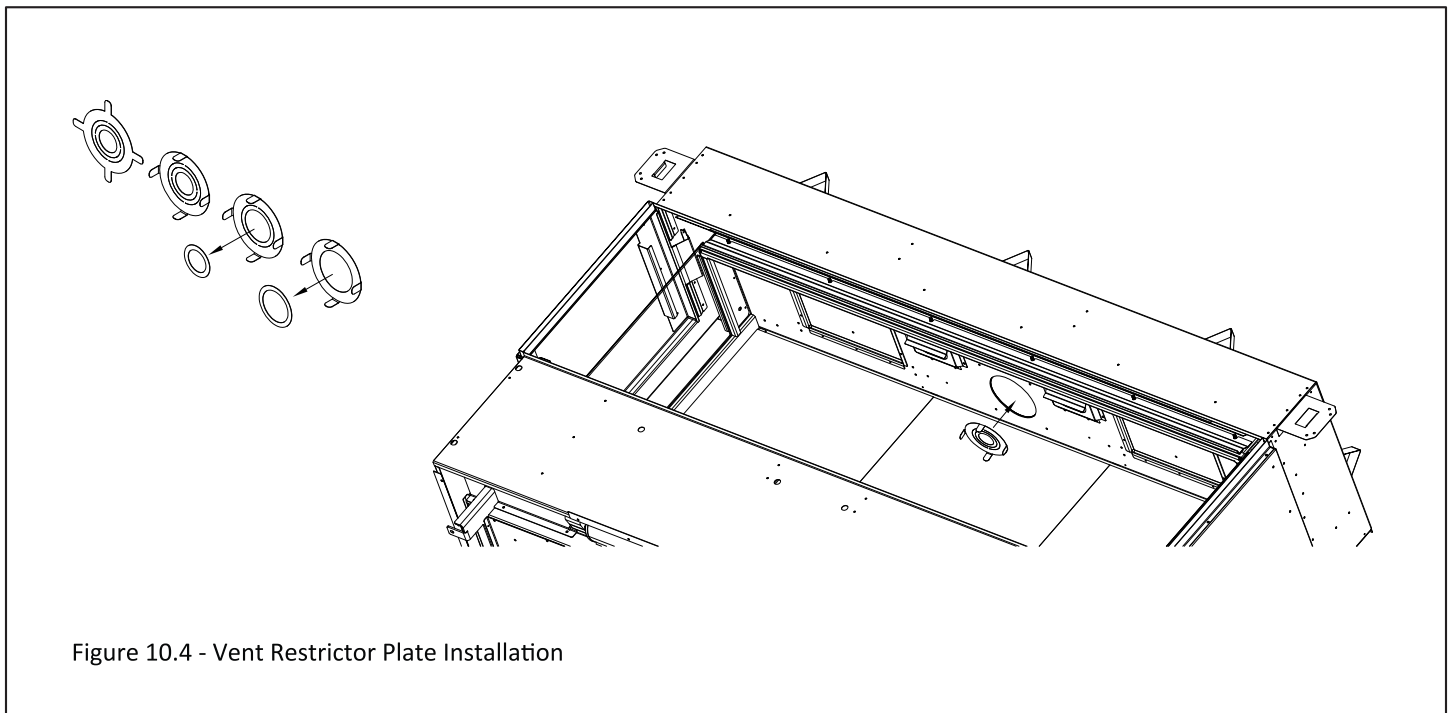

Figure 10.4 - Vent Restrictor Plate Installation
Vertical terminations may display an active, compact flame. If this appearance is not desirable, a restrictor plate may need to be installed or modified after vent termination installation. Access to the vent exit for restriction can be reached through the fireplace ceiling. See Figure 10.4
3. Insert restrictor plate into the 5” (127mm) exhaust pipe with the tabs pointing downward. See Figure 10.4.
4. Insert restrictor plate into the 5” (127mm) exhaust pipe with the tabs pointing downward, as shown in Figure 10.4.